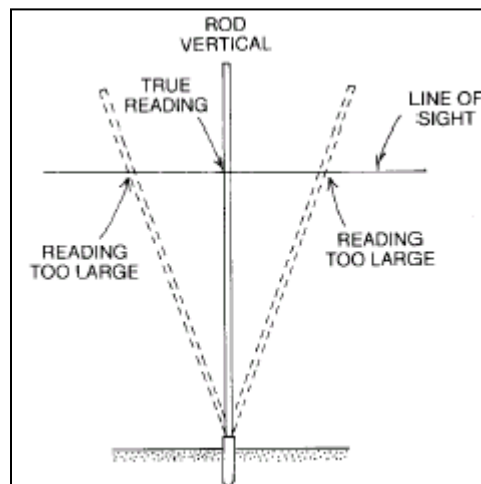

Figure 14 – Leaning the rod results in incorrect readings
- **Note:** It is very important that the rod be held vertically (Figure 14).